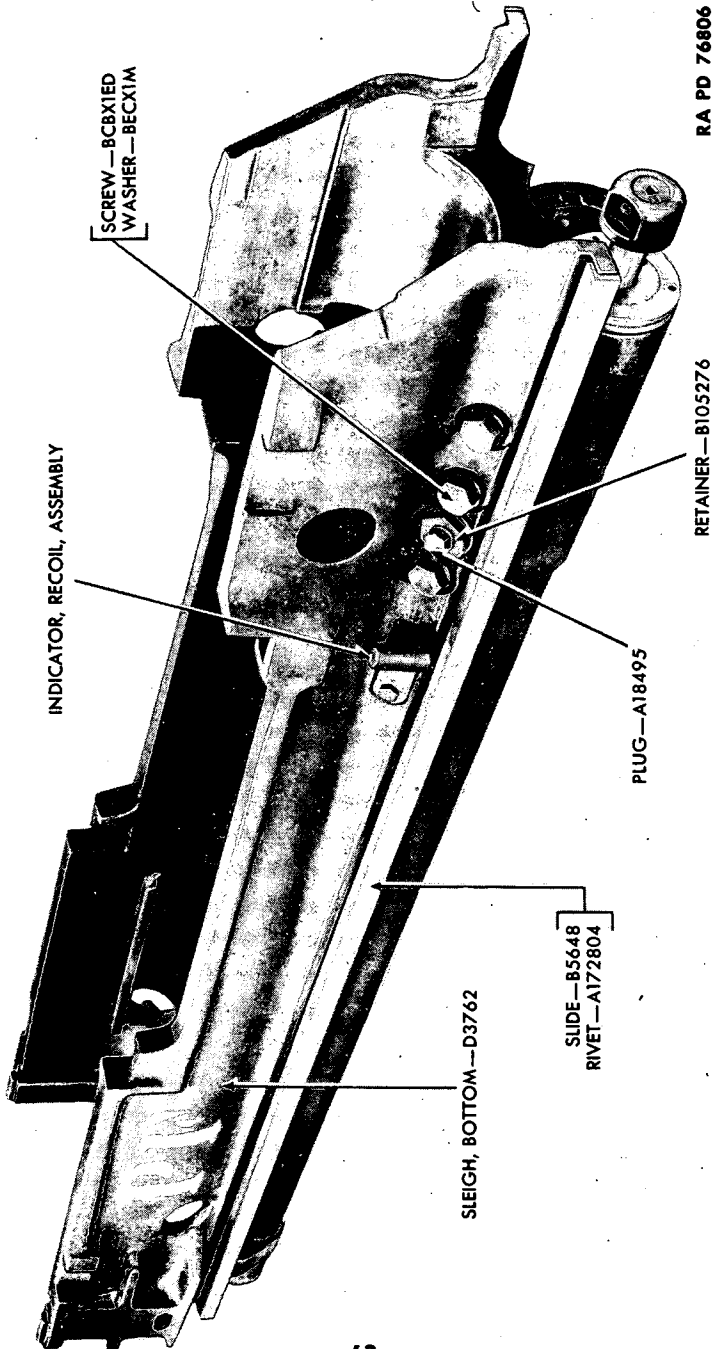

Figure 42—Bottom Sleigh and Recoil Mechanism
(1) The recoil mechanism which is used on the 75-mm howitzer materiel is of the hydropneumatic, constant, floating piston type, designated Recoil Mechanism M1A4.
(2) The two cylinders, known respectively as the recoil cylinder and the recuperator cylinder, are fixed underneath the bottom sleigh and are screwed into the yoke (fig. 42).
(3) The piston rod is secured to the cradle by means of the piston rod latch. The yoke and cylinder move with the bottom sleigh and howitzer in recoil and counterrecoil, while the piston remains stationary.
(4) The recuperator cylinder front head is fitted with an oil index. The function of the oil index is to show the amount of reserve oil in the mechanism.
(5) The recoil cylinder filling and drain valve is contained in the recoil cylinder filling valve housing located near the right front of the bottom sleigh.
(6) The recoil cylinder is closed at the rear by the respirator. As this respirator is on the low-pressure side of the piston, elaborate packing is not required.
(7) A recoil indicator of the spring-controlled, plunger type is bolted to the right side of the bottom sleigh near the front (fig. 42).
(8) On each side of the bottom sleigh there are strips or slides which engage the slideways or guides of the cradle to guide the bottom sleigh to recoil and counterrecoil (fig. 42).